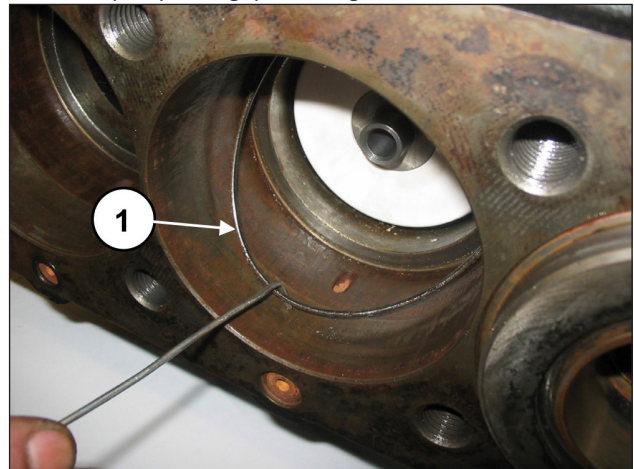

Fig. 155
Extract the seal support unit and the buffering tool. Remove the seal support bottom O-ring should it remain inside the pump casing (pos. ①, Fig. 155).